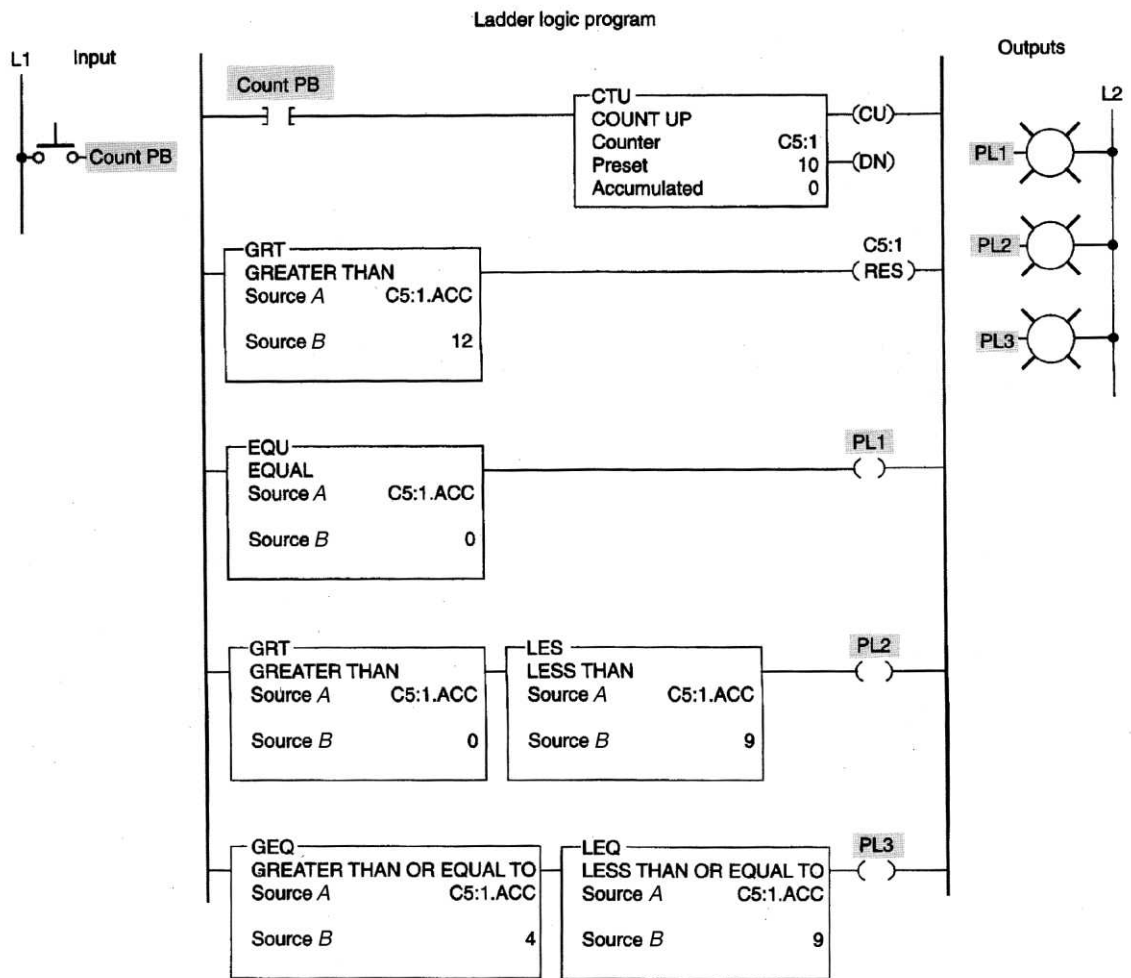

Figure 10-39 Data comparison program for assignment 15.
15) Enter the data comparison program of Figure 10-39 into the PLC. Operate the program, and answer the following questions about the operation: